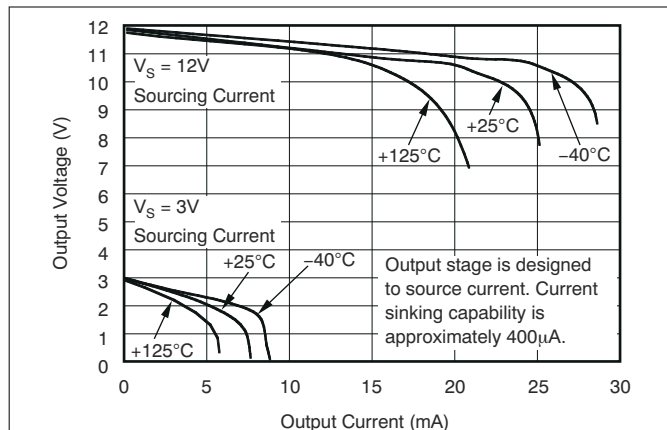

Figure 6-7. Positive Output Voltage Swing vs Output Current
- (1) Offset is extrapolated from measurements of the output at 20 mV and 100 mV  $V_{SENSE}$ .
- (2) Total output error includes effects of gain error and  $V_{OS}$ .
- (3) Linearity is best fit to a straight line.
- (4) For details on this region of operation, see the Accuracy Variations section in the Section 8.4.
- (5) See Figure 6-7.